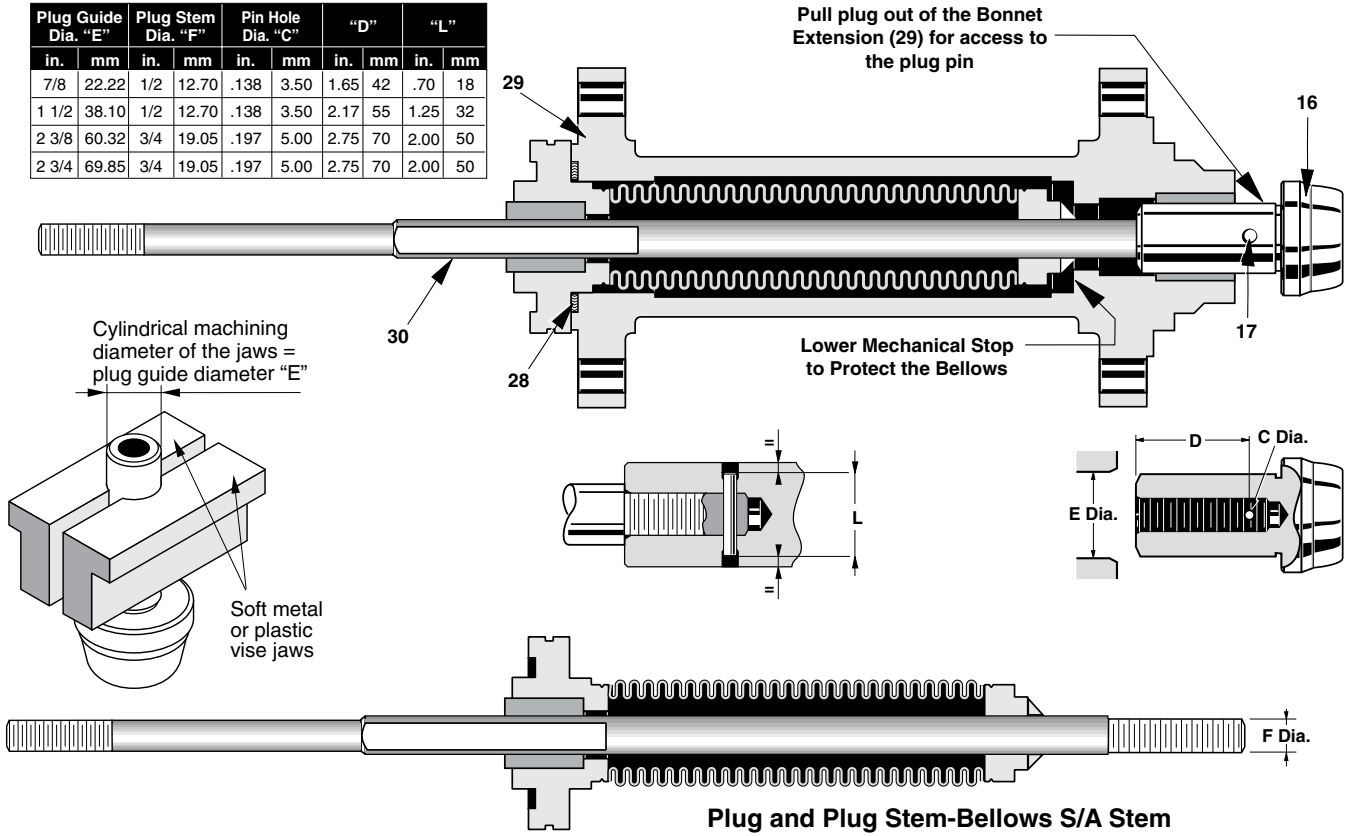

Figure 18 - Unpinning and Pinning of the Plug to Stem
Note: Always use soft metal vise jaws to hold the plug guide surface. Failure to take this precaution could result in damage to the plug guide surface during pinning (see Figure 18).
(typical for 440C hardened stainless steel material or solid Stellite or Equivalent), then drill the stem to the same diameter (Diameter C in Figure 18) as the Plug Shank Hole.
- Match Diameter C (see Figure 18),
- Measure Dimension D based on the plug guide diameter and stem diameter (see Figure 18).
- Select the correct size pin based on the plug guide diameter and stem diameter (see Figure 18). Apply a small amount of grease on the pin and hand-assemble it into the hole in the plug.
- Press fit the pin into the hole using a hammer. Complete the pinning operation by ensuring that the pin is recessed by the same amount from both sides (see Figure 18).